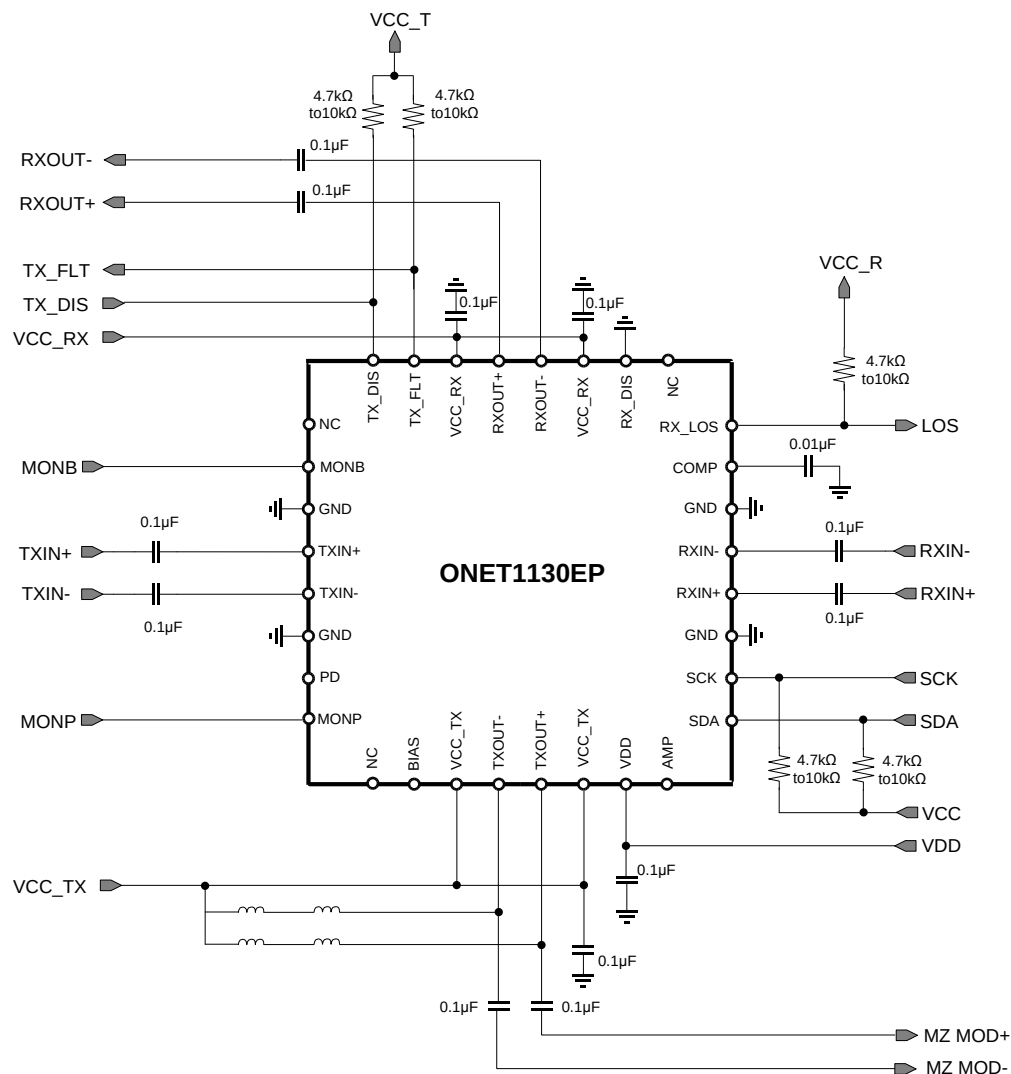
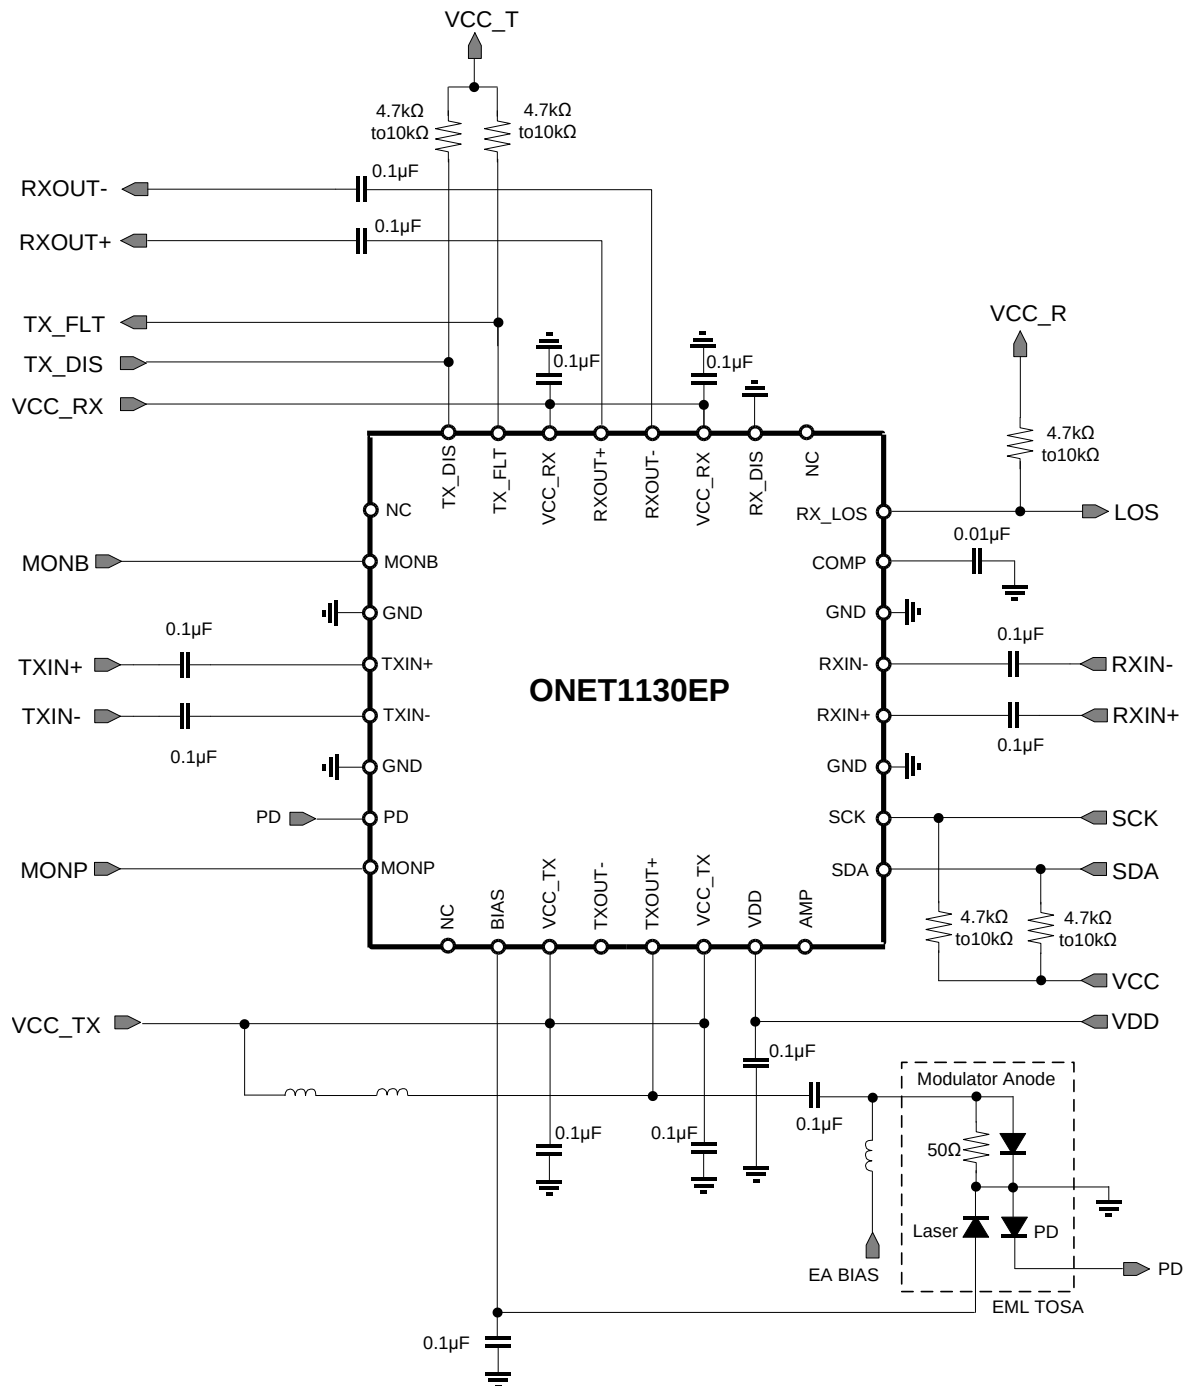
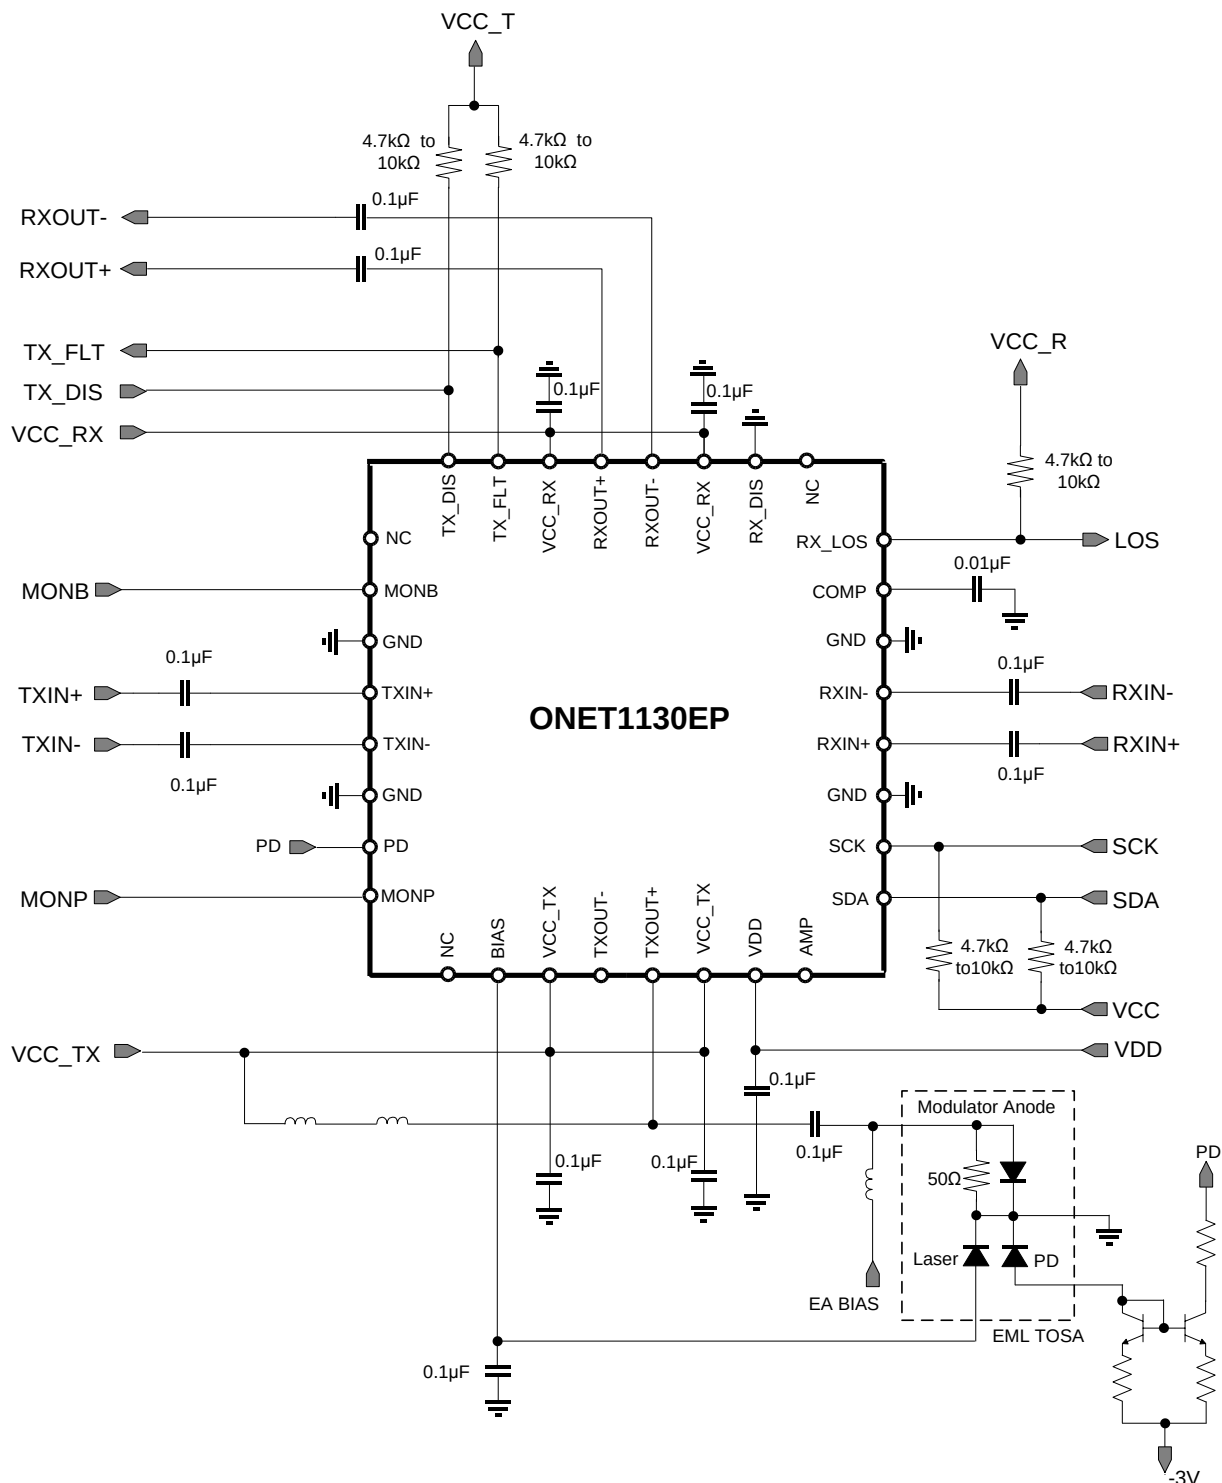

Figure 64. Typical Application Circuit in Differential Mode
Figure 66. Typical Application Circuit in Single-Ended Mode with an EML and the PD Monitor Cathode Available
Figure 67. Typical Application Circuit in Single-Ended Mode with an EML and the PD Monitor Anode Available
The ONET1130EP is designed to be used in conjunction with a Transmitter Optical Sub-Assembly (TOSA) and a Receiver Optical Sub-Assembly (ROSA). The ONET1130EP, TOSA, ROSA, microcontroller and power management circuitry will typically be used in an XFP or SFP+ 10 Gbps optical transceiver. Figure 64 shows the ONET1130EP in differential mode of operation modulating a differentially driven Mach Zehnder (MZ) modulator TOSA and Figure 66 and Figure 67 show the device in single-ended output mode with an Electroabsorptive Modulated Laser (EML) TOSA. Figure 66 has the photodiode cathode available and Figure 67 has the photodiode anode available.